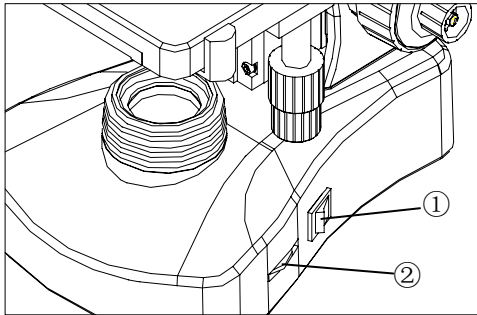

Fig.16
### 3.2.1 Adjusting the brightness (Fig.16)
1. Connect the power, turn on the main switch ① (figure 16) to “-”(on).
2. Turning the brightness adjustment knob② anti-clockwise, the voltage raise, and the brightness strengthen; turning it clockwise, the voltage decline, and the brightness weaken.